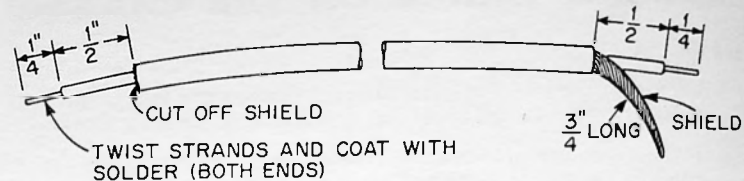

FIGURE 21. CABLE PREPARATION
- Prepare three  $10\frac{1}{2}$ " lengths of shielded cable as shown in Figure 21. Connect as follows: